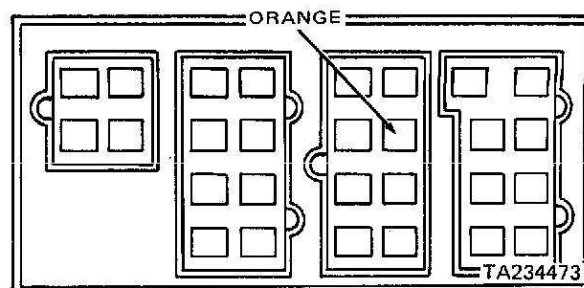

Figure 2-44. Bulkhead Connector (Orange Wire).
(1) If the meter reads 0 to 3 ohms, go on to *p*, below.
(2) If the meter reads more than 3 ohms, notify Direct Support to repair the starter relay circuit through the ignition switch.
p. Reconnect the steering column connector. Reset the multimeter to read battery voltage. Turn the ignition switch to the START position. In the engine compartment, check for battery voltage by pushing the red test lead in from the back where the orange wire comes out of the firewall bulkhead connector (figure 2-44).
(1) If the meter does not read battery voltage, press in on the bulkhead connector and wires and move them back and forth.
(2) If battery voltage is still not present, notify